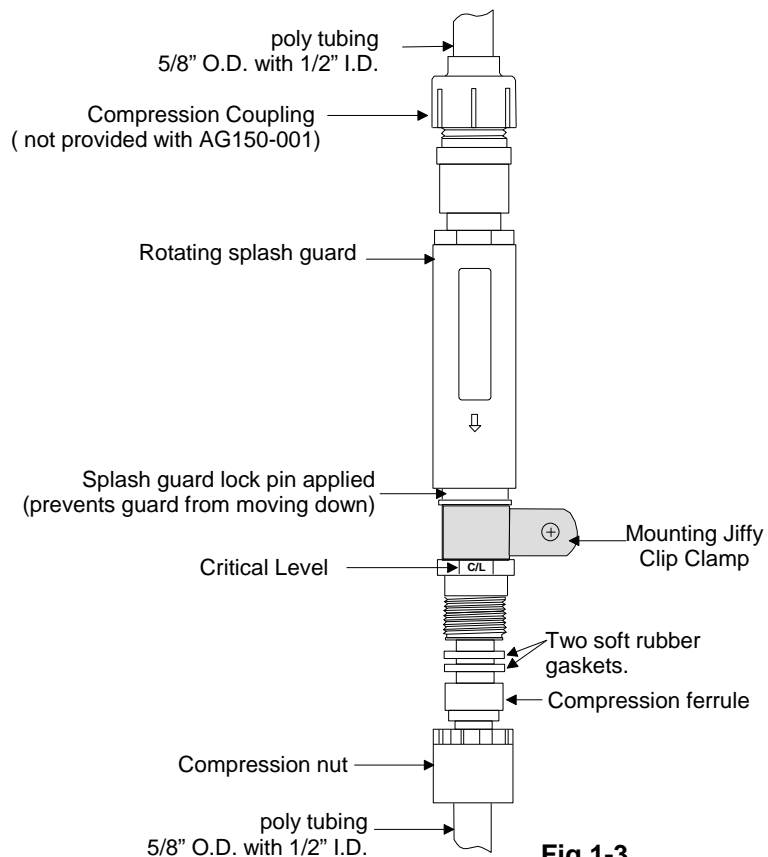

Fig 1-3
3. Poly tubing 5/8-inch OD with 1/2-inch ID can be used to connect inlet and outlet ports of the AG150-001. (See Fig.1-3)